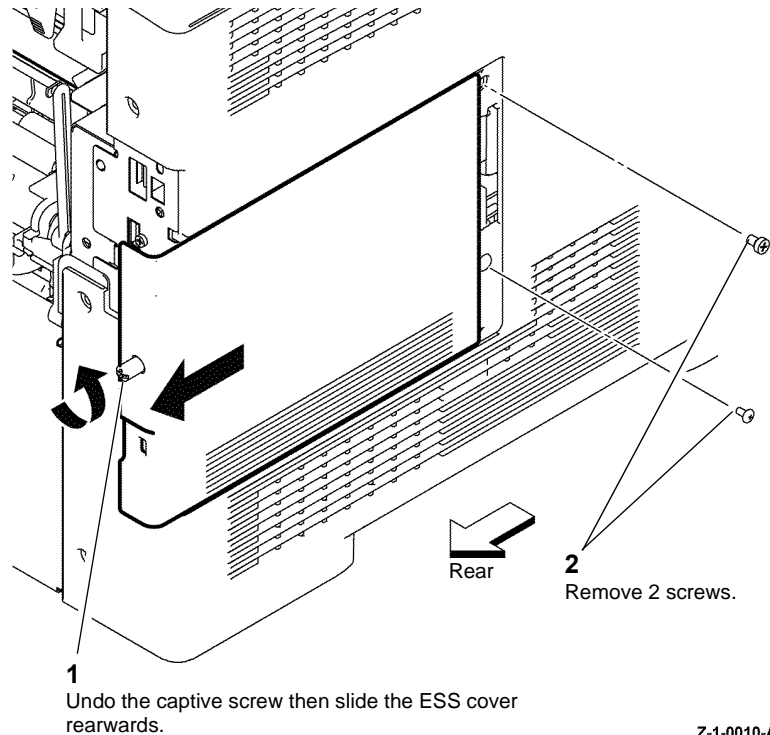

Figure 1 ESS cover C400
3. Prepare to remove the left side cover assembly, Figure 1.